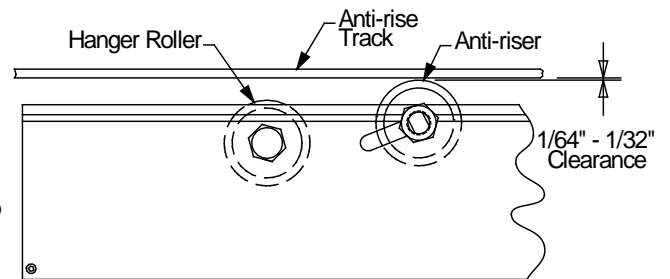

Figure 20
1. Loosen the hanger roller and anti-riser nuts with a 15/16-inch wrench. (See Figure 20)